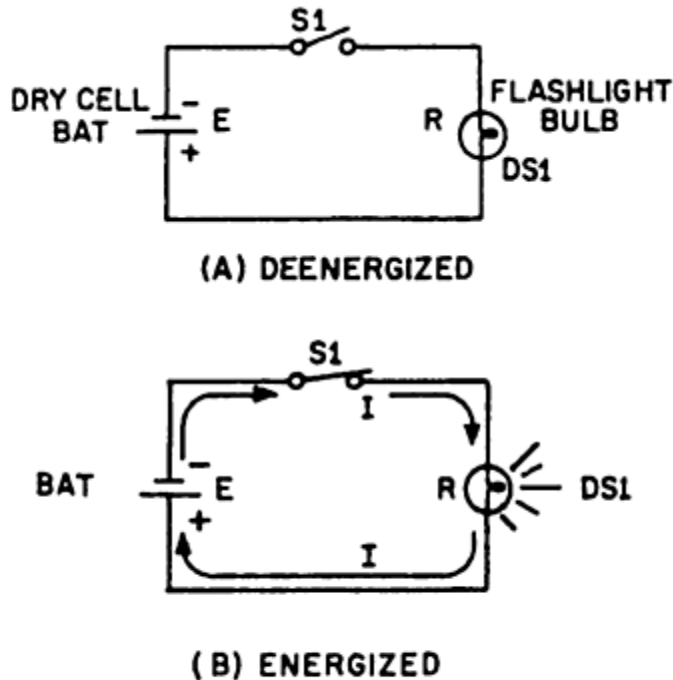

FIGURE 3-1. Schematic of a Flashlight.
The schematic in Figure 3-1 represents a flashlight. In the de-energized state, the switch (S1) is open. There is not a complete path for current (I) through the circuit, so the bulb (DS1) does not light. In the energized state, the switch (S1) is closed. Current flows from the negative terminal of the battery (BAT), through the switch (S1), through the lamp (DS1), and back to the positive terminal of the battery. With the switch closed, the path for current is complete. Current will continue to flow until the switch (S1) is moved to the open position or the battery is completely discharged.
In the equation $I = E/R$, if any two quantities are known, you can determine the third one. Refer to Figure 3-1 view B, the schematic of the flashlight. If the battery (BAT) supplies a voltage of 1.5 volts and the lamp (DS1) has a resistance of 5